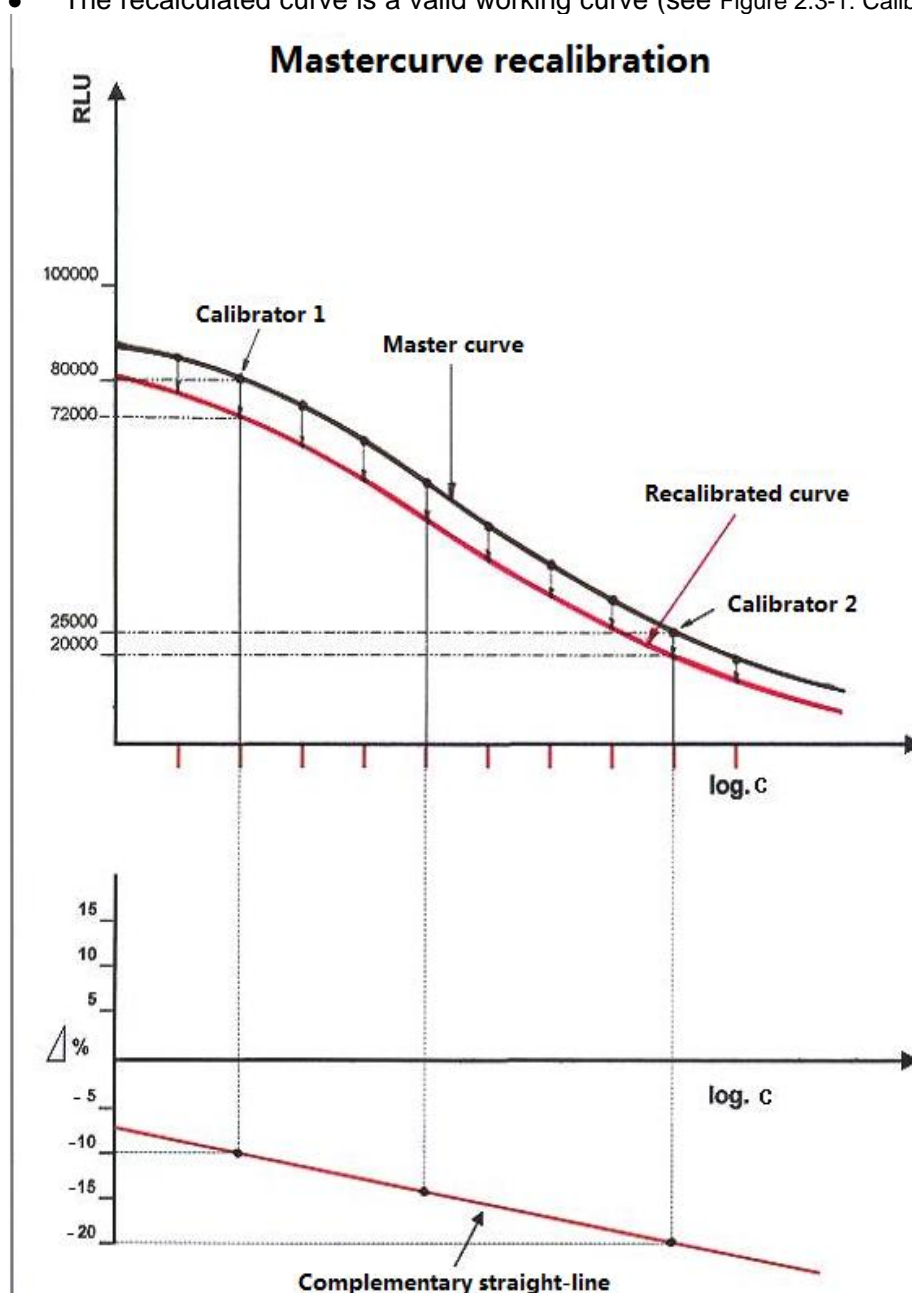

Figure 2.3-1 Calibration Principle
- The recalculated curve is a valid working curve (see Figure 2.3-1: Calibration Principle).